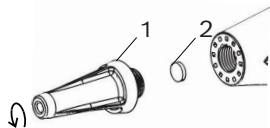

Fig. 12: Sensor components
- ! To ensure optimum sensor performance and longevity, the sensor filter should be replaced when visibly dirty or when the message screen in Fig. 12 is displayed. The CS LD 1.0 will keep track of the number of hours of usage and will advise the user when it is time to replace the filter.
The warning depicted in Fig. 12 is displayed at power ON when the CS LD 1.0 internal timer registers approximately 30 hours of accumulated use.
When the 'Check Sensor Filter' message (Fig. 12) is displayed, the user is directed to consult this manual for the following instructions. It is possible to take one of two actions at this time: